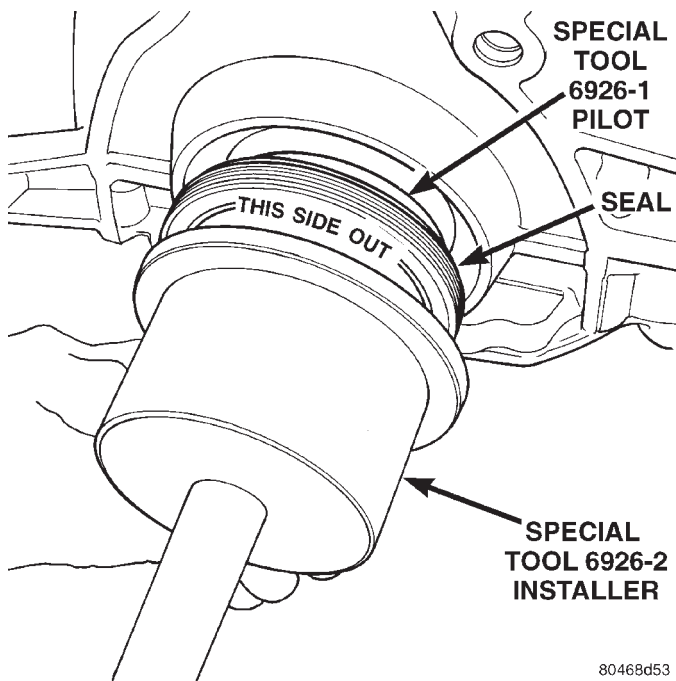

Fig. 77 Crankshaft Seal Special Tool 6926-2
(3) Drive the seal into the block using Special Tool 6926-2 and handle C-4171 (Fig. 77) until the tool bottoms out against the block (Fig. 78).